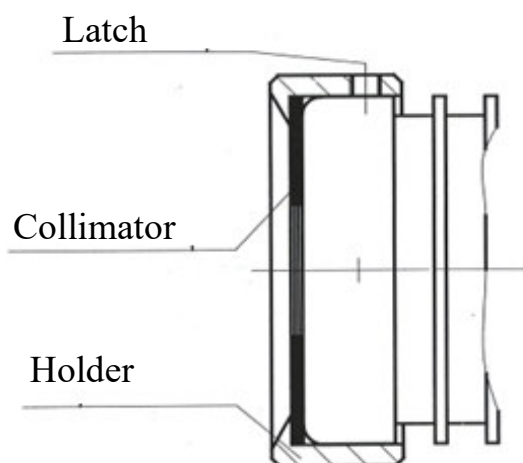

Figure 8a – Collimator assembly on tubehead
7.9.3 In directional beam applications of MART-200, the solid angle of X-ray radiation needs to be limited. This is achieved by assembling and fixing a beam-limiting collimator onto the end of the X-ray tubehead as shown in Figure 8a. Assemble collimator with its black painted side facing inward.